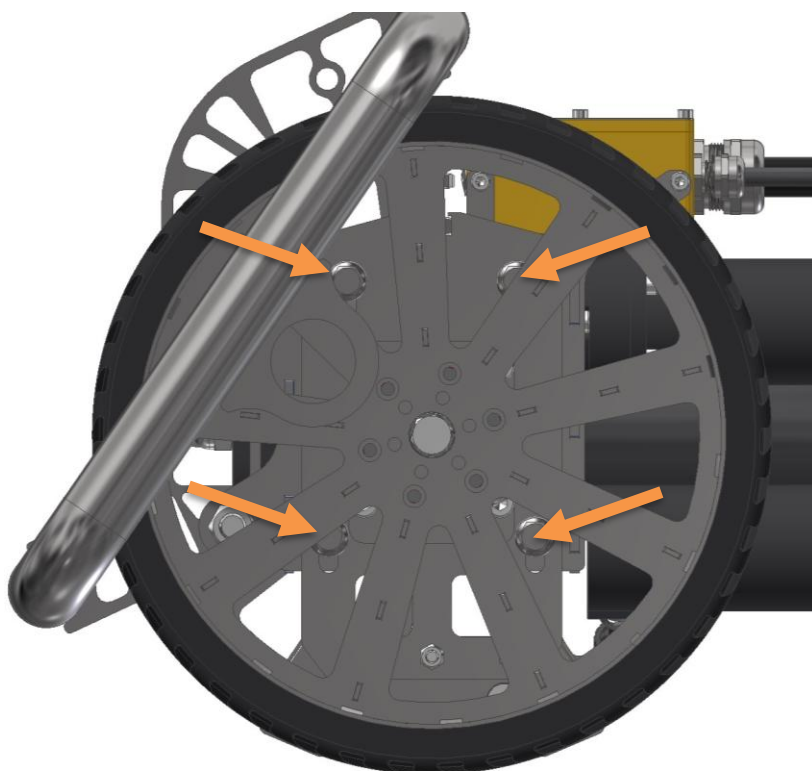

Figure 42 Loosen up 4 bolts
1. Loosen the in Figure 42 indicated (4x) bolts 1 or 2 turns with an extended socket 13 mm. Do not disassemble them completely!